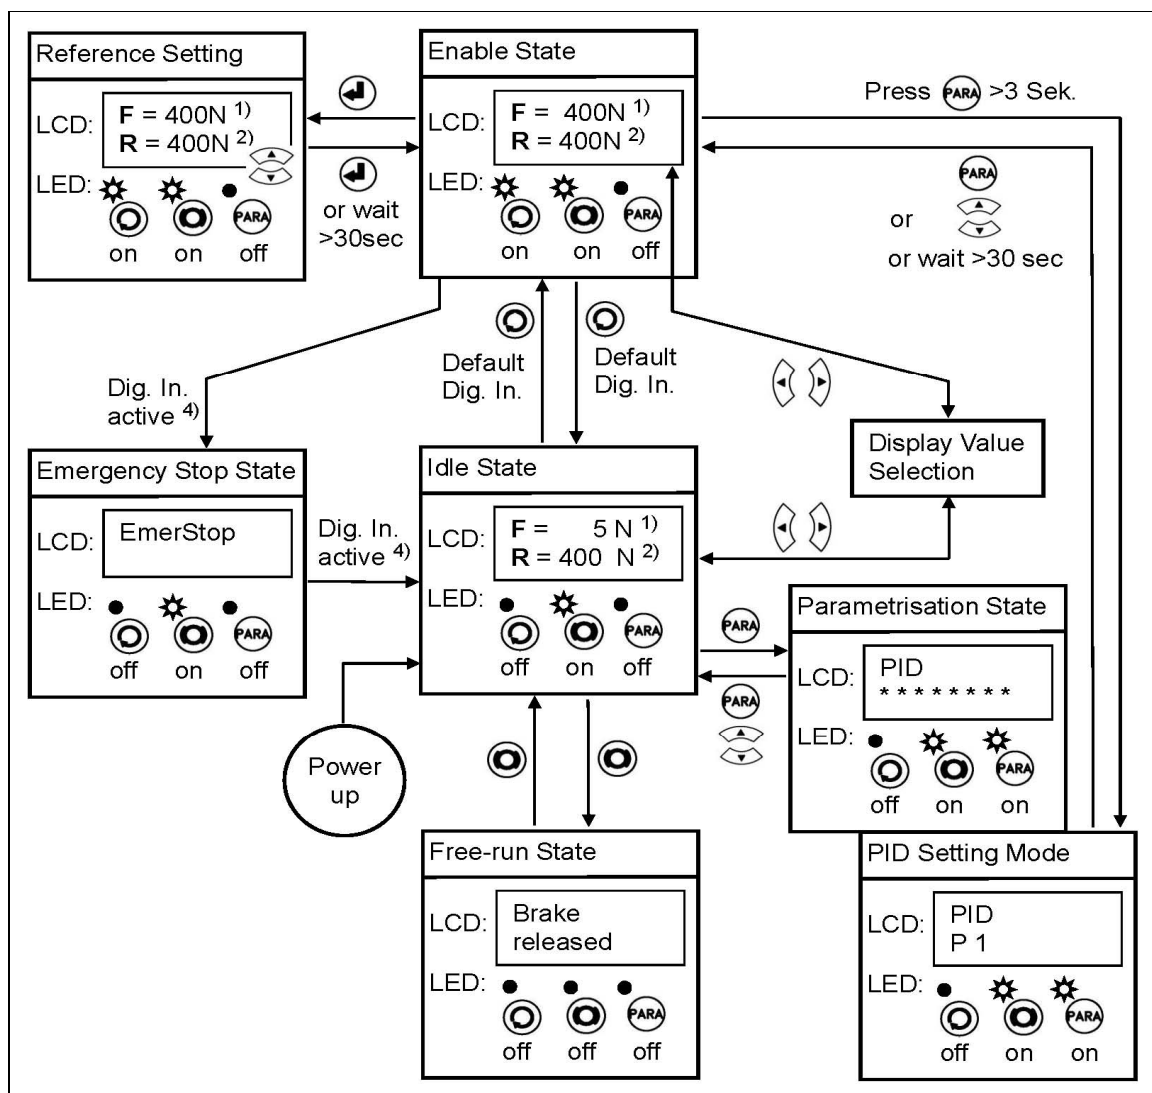

Fig. 12: Top-level view of operation control for brake applications
The user can toggle between the different states by pressing a key on the front panel. **Fig. 12** and **Fig. 13** provide an overview about the different Operation States and how to move from one state to the other.
2. Go to “Enable State” (see Fig. 12 or 13)
The Parametrisation State can only be accessed from the “Idle State”. From the “Enable State” only the Parameter Group “PID” can be reached (see Fig. 12 and Fig. 13).